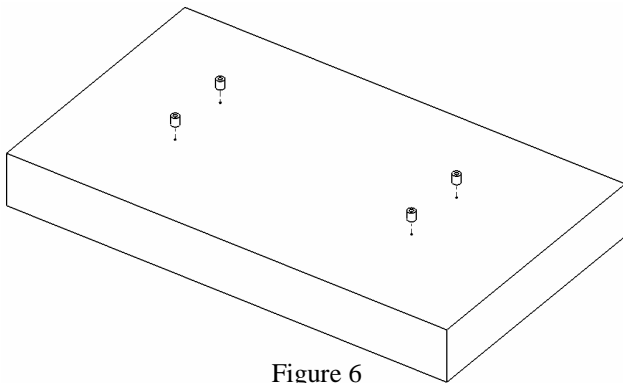

Figure 6
3. Place Nylon spacers over mounting holes on back of screen. Attach mounting brackets to display using the M6 screws (see Figure 6, 7 & 8).